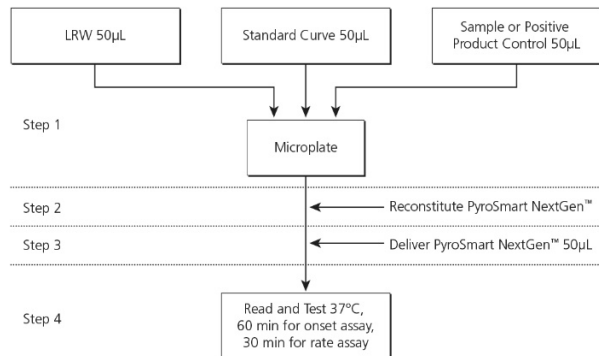

Figure 2: Preparation of Microplate
4. Prepare the microplate as shown in Figure 2. The microplate setup is described in more detail below.